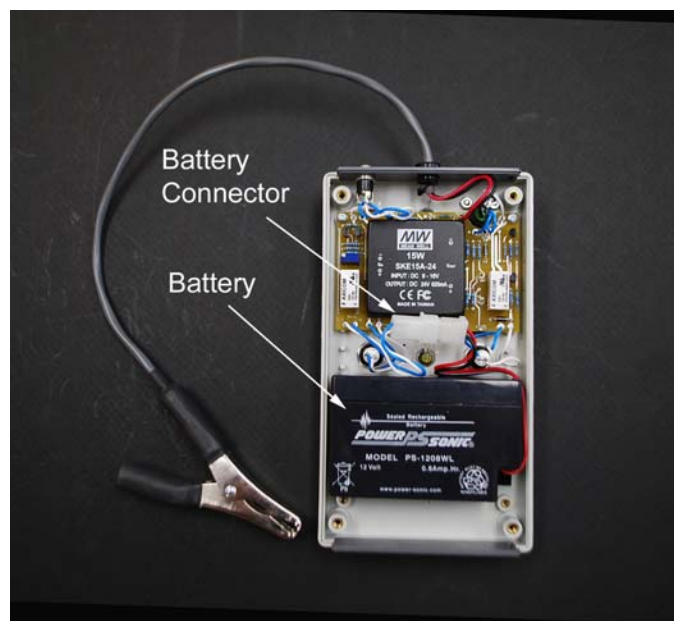

Figure 3 - Battery Replacement
- c) Install the new battery by pressing into the Velcro™ retention patch on the back cover as shown in the Figure 3. (Note: If the replacement battery is procured from a source other than BaseWest, install a 2 x 3" patch of Velcro™ loop (pile) material, or equivalent, on the back side of the battery prior to installation. This type of material can be procured locally from hardware stores).
- a) Disconnect the battery at the battery connector (Figure 3).